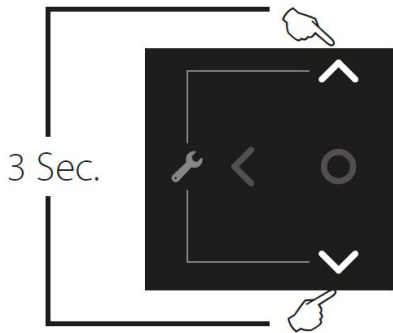

Fig. 4: Installer Button
8. Touch simultaneously on the up and down soft keys for 3 seconds to access the functions for the installer. See Fig. 4.